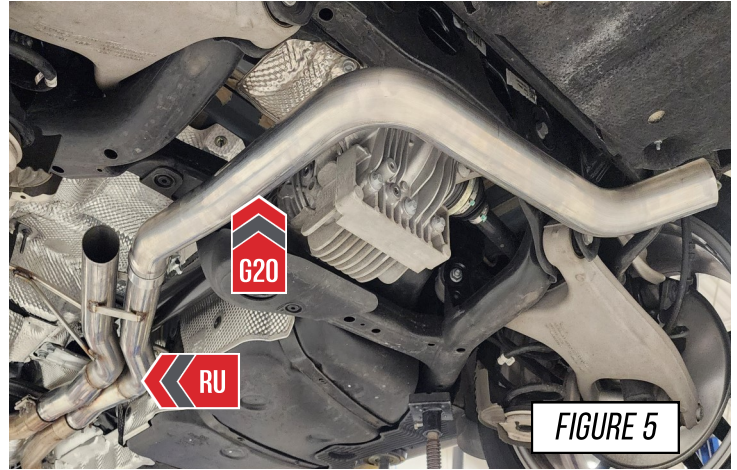

FIGURE 5
Do this by sliding a provided 2.5" clamp over the expanded inlet of the axle tube. Bottom out the expanded slip on the passenger side outlet of your AWE X-pipe (RU), as shown in **Figure 5**.
Rotate the axle tube so it sits behind the differential, as shown in **Figure 5**.